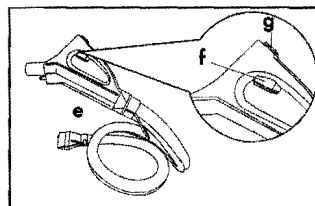

Fig. 12
- Push the vacuum function control button (g) on the handle of the work hose (e) to activate or deactivate the vacuum function. Fig 12.
- Push the steam on/off button (f) on the handle of the work hose (e), to activate or deactivate the steam function. Fig 12.
- Push the steam on/off button (f) and the vacuum on/off button (g) on the handle of the work hose (e) to activate or deactivate the water/detergent dispensing or the vacuuming function. Fig. 12.
- Push the steam on/off button (f) and the vacuum on/off button (g) on the handle of the work hose (e), to activate or deactivate the suction, water/detergent injection and steam functions. Fig. 12. This combination of functions is specially well suited to the removal of persistent soiling.